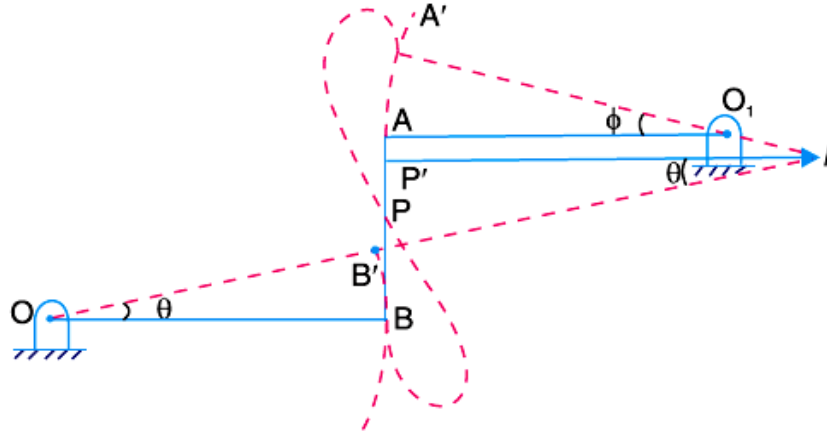

Fig: 4
- b) The distance between the fixed centres O and O_1 of a Watt's straight line motion, as shown in the fig:4, is 250 mm. The lengths of the three moving links OB , BA and AO_1 are 150 mm, 75 mm and 100 mm respectively. Find the position of a point P on BA which gives the best straight line motion. [7M]